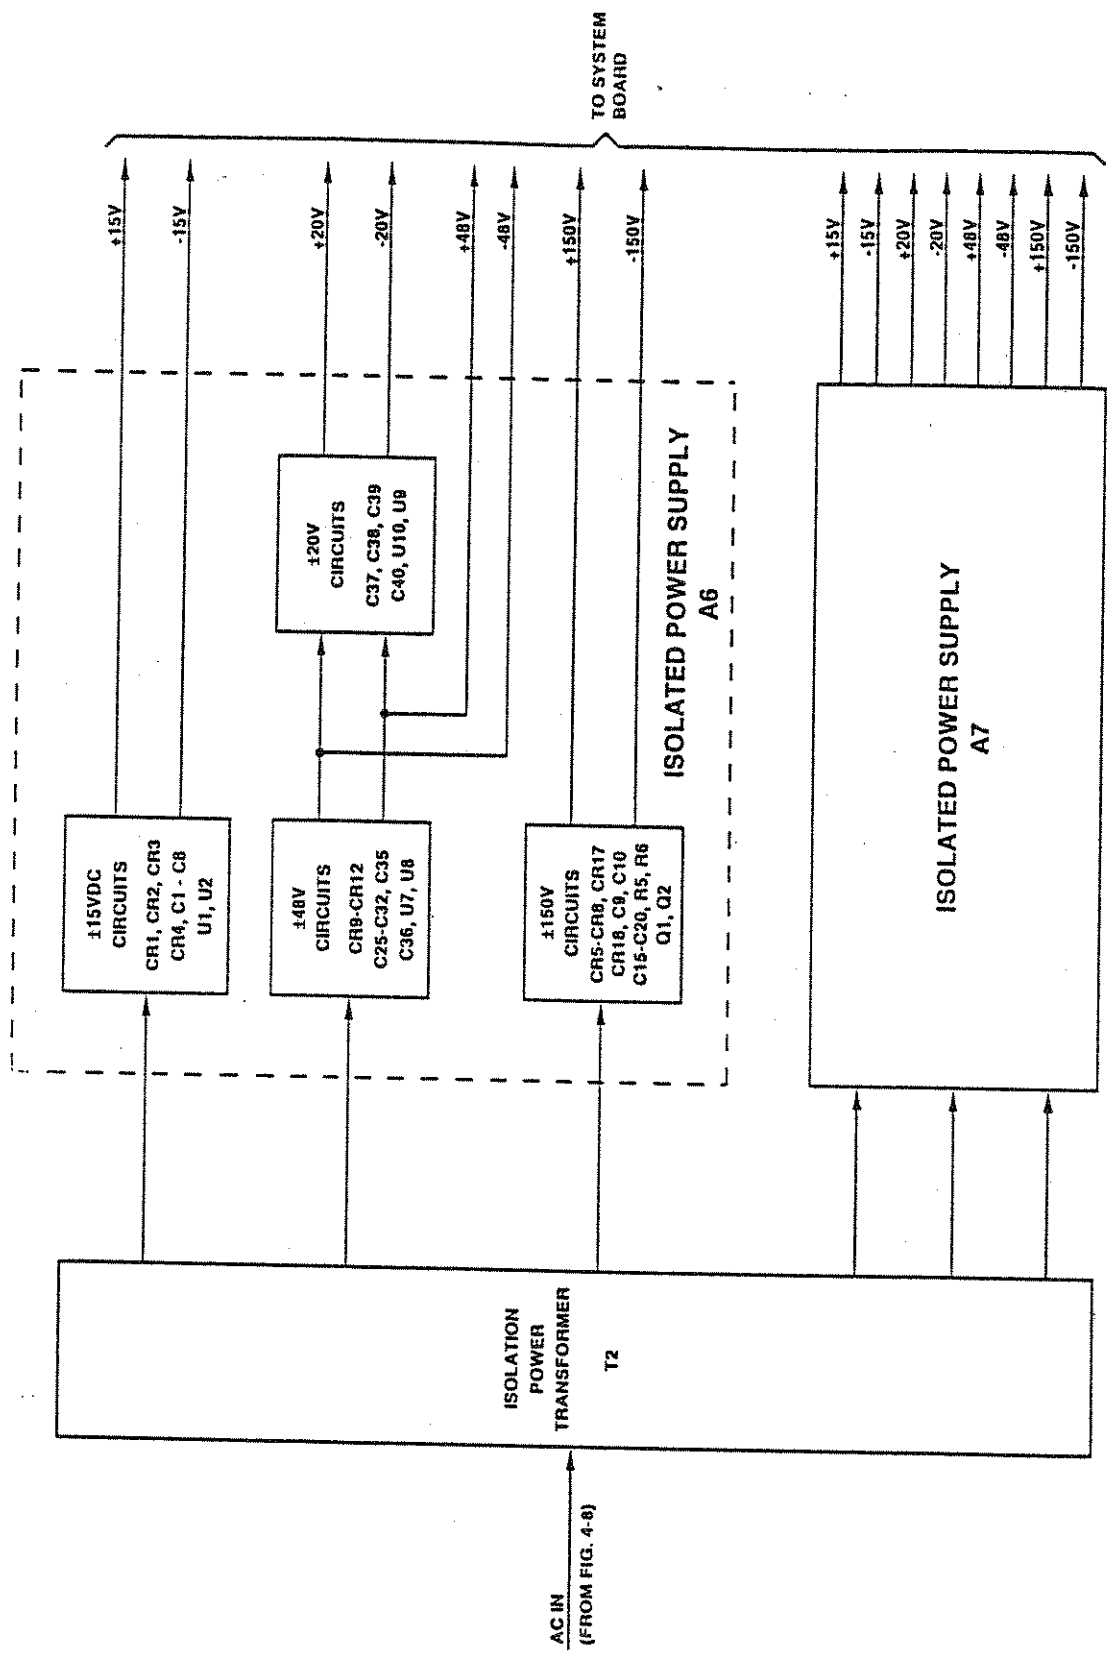

Figure 4-9. Isolated Power Supply, Block Diagram
4.4.6 ISOLATED POWER SUPPLIES (Figure 4-9, 7-6)